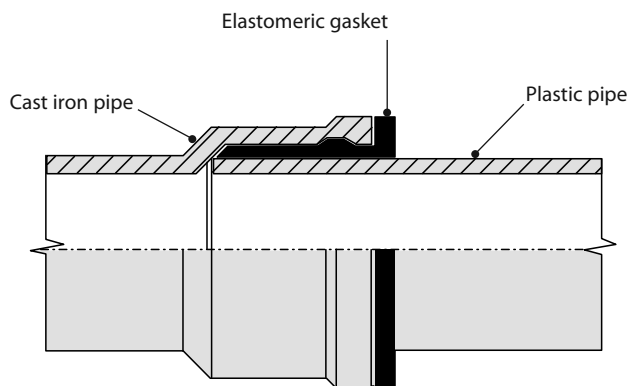

Figure 8-4
- When you've got to join together different piping materials in new work, you must do it with an approved transition fitting. Figure 8-4 shows plastic pipe joined to cast iron pipe with a compression gasket.